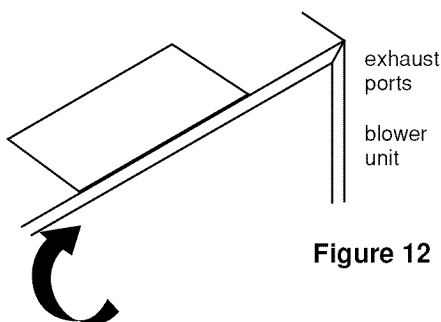

Figure 12
4. Rotate blower unit end over end. Rotate the unit 90° so that the exhaust ports face the rear of the cabinet. See Figure 12.